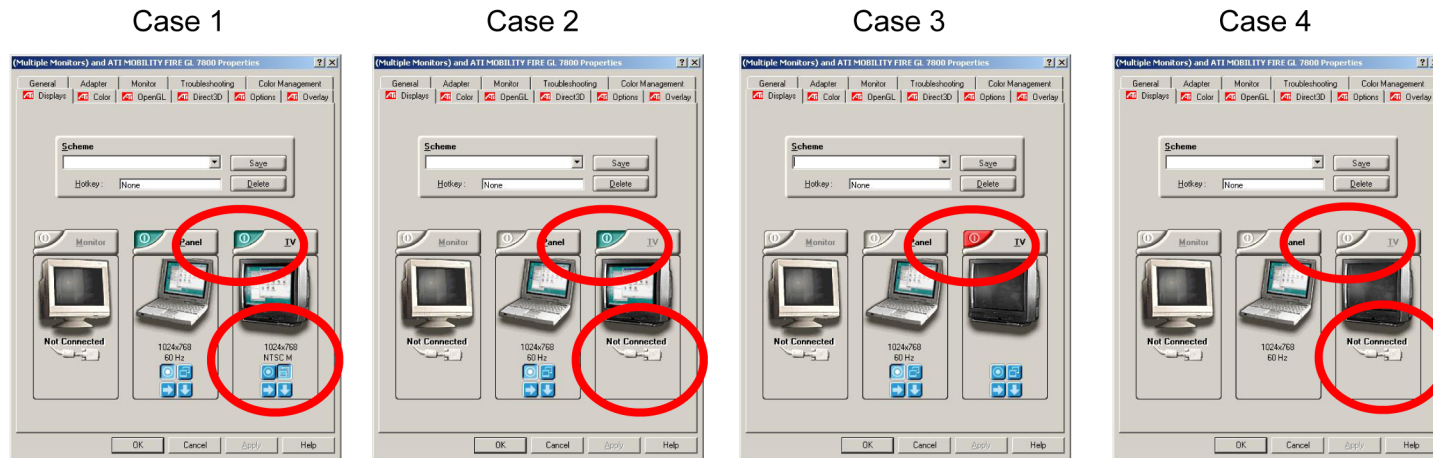

Figure 20-1.- Multiple monitors and ATI mobility fire GL 7800 display tab.
6. ✓ 'Displays' tab against fig 20-1 cases' circled areas and perform matching case steps below:
Click Green tab. Tab automatically turns red after selection (see fig 20-1)